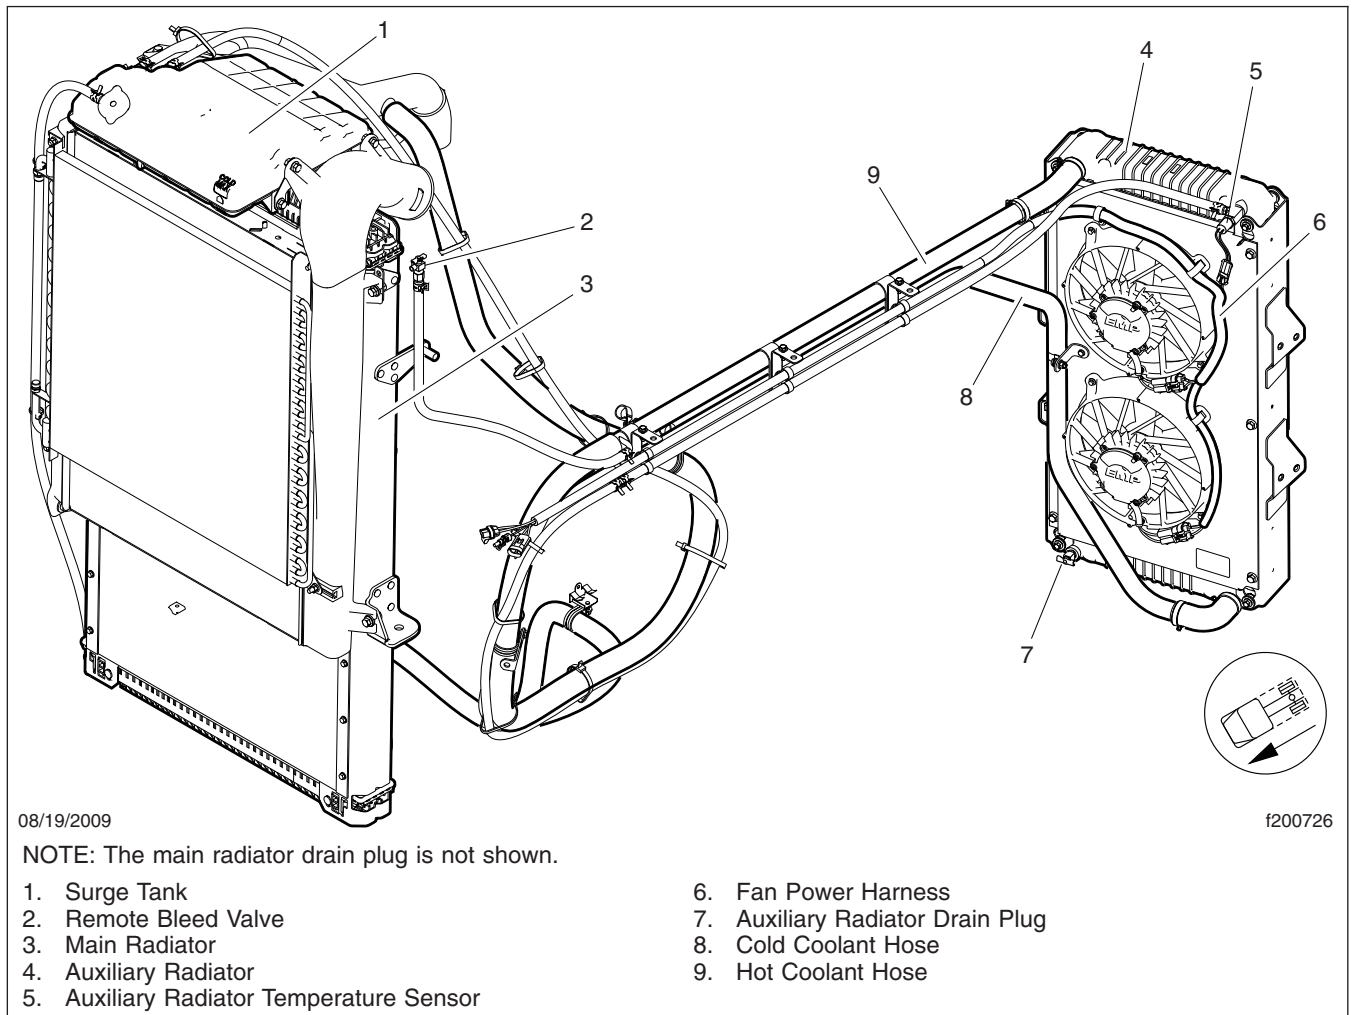

Fig. 3, Coolant System, Argosy, with Auxiliary Radiator
4. On Argosy's with auxiliary radiators, open the remote bleed valve. See Fig. 3.